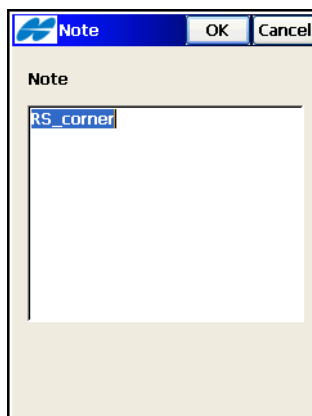

Figure 9-3. Note
- *Note*: opens the **Note** screen (Figure 9-3). The **Note** screen is used for additional information. When exporting raw data (for example, to a TDS Raw Data file), this information is in the *Point Description* field. The note should be entered in the *Note* field. Press **OK** to store the Note.